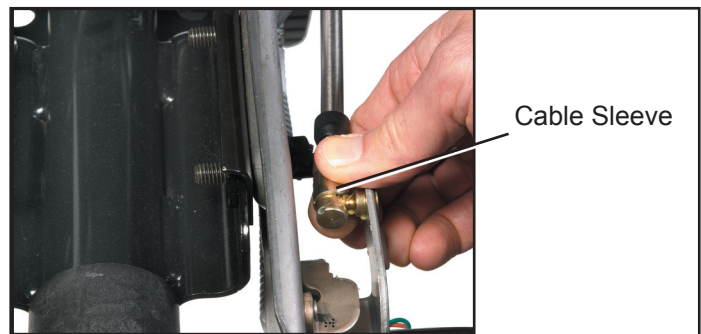

Figure 4 - AT Shifter Sleeve
3. Disconnect the shifter cable(1) from the shifter by pulling the sleeve back on the end of the shifter cable and lifting the socket from ball on the shifter tilt lever. See Figures 4 and 5.
1. Route the new shifter cable(1) through the opening in the cab and along the same path as the removed cable. Secure any clipping points of the cable under the cab and along the frame or the transmission.
3. Lubricate the ball on the shift lever arm with automotive grease. Slide the shifter cable socket end over the ball on shift lever arm making sure the ball is fully seated and the lock on the cable has fully engaged. Refer to Figures 4 and 5.